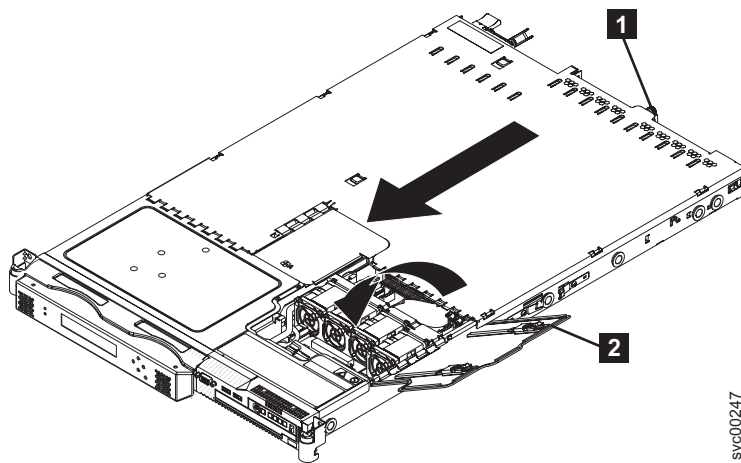

Figure 74. SAN Volume Controller 2145-8G4 with the fan door open
3. Tighten the thumbscrew **1**, which is shown in Figure 74, until the cover correctly engages all the inset tabs on the SAN Volume Controller 2145-8G4.